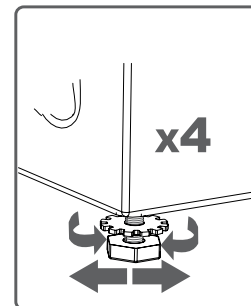

Fig4
**4:**Adjust by rotating the feet upwards or downwards.(Fig 4)